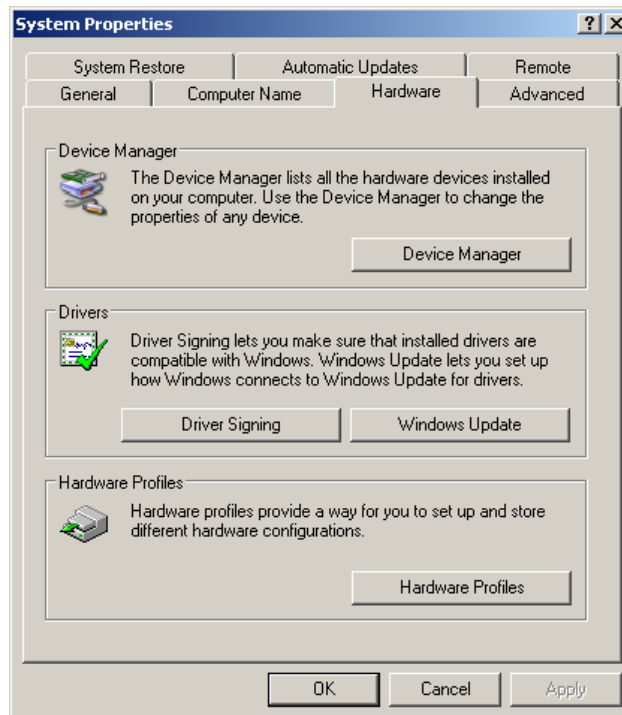

FIG. 22 System Properties dialog - Hardware tab
1. Navigate to **Start > Settings > Control Panel >** and double-click the **System** icon to launch the *System Properties* dialog (FIG. 22).